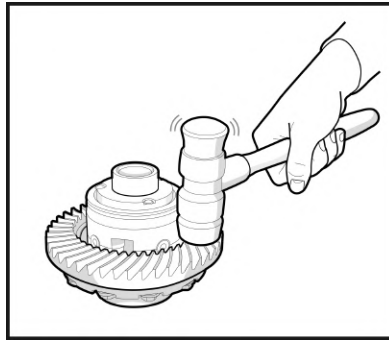

Fig. 17
2.8 Install the ring gear on the Electric Locker case, aligning its threaded holes with the holes in the case. If necessary, use a rubber-, plastic-, or copper-faced hammer to seat the ring gear by applying even blows around its circumference. (**Fig. 17**)